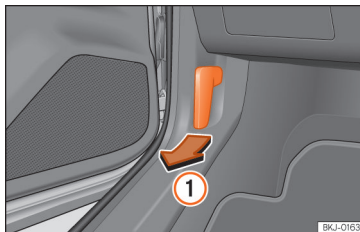

Fig. 189 Release lever in the driver's footwell area.
- Open the door and pull the lever under the dashboard » **Fig. 189 ①**.